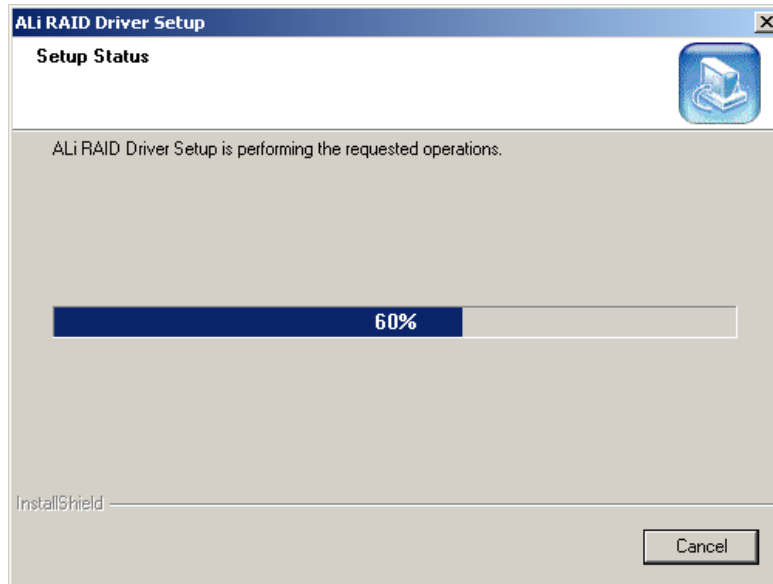

Figure 6-27: RAID Driver Installing Screen
Step 5: The **Install Wizard** starts to install the driver (**Figure 6-27**).